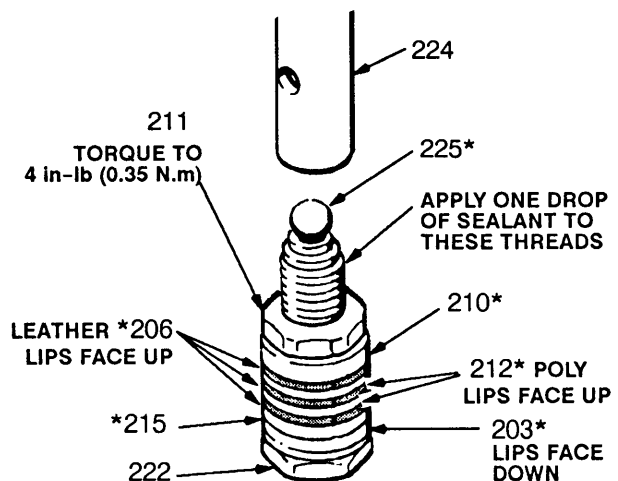
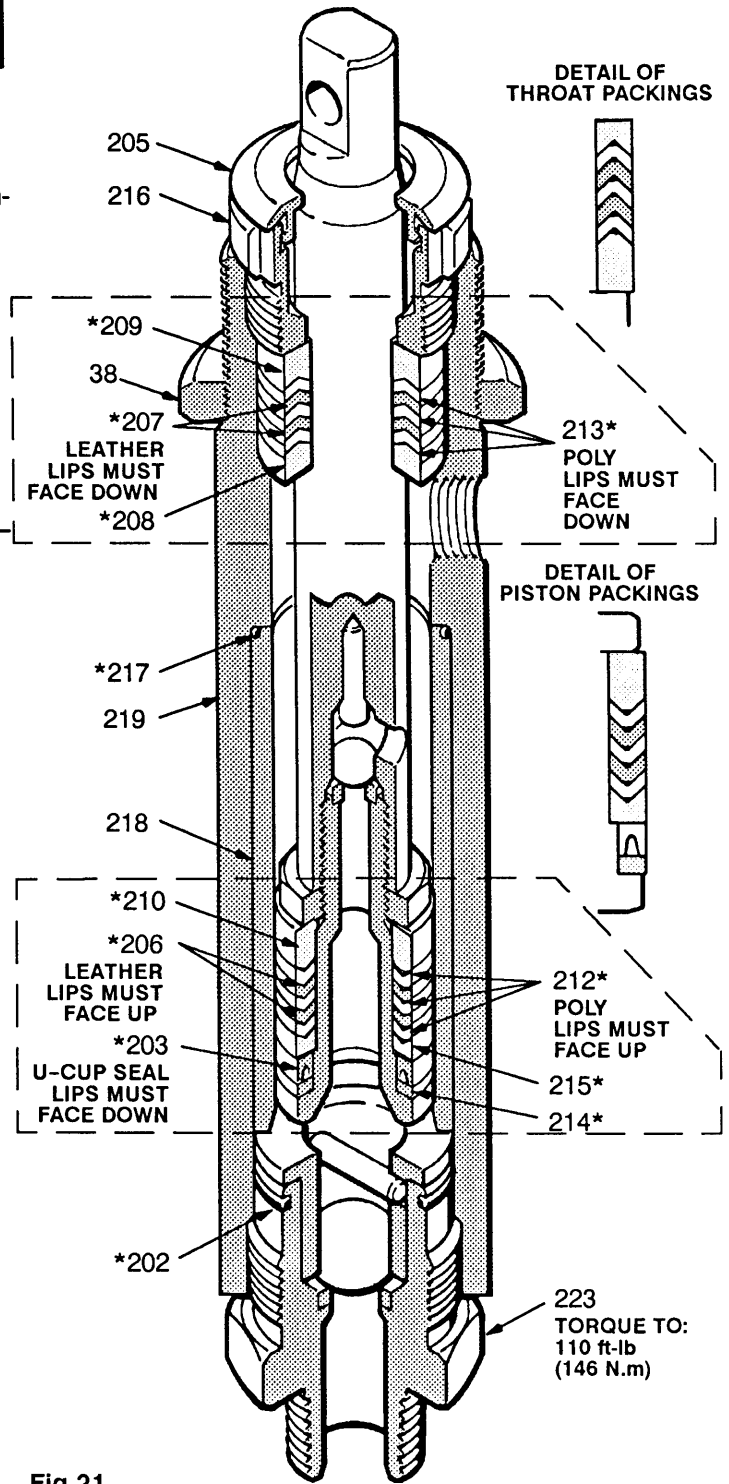

Fig 18
Fig 21
4. Remove the packing nut (216) and plug (205). See Fig 21.
5. Use a plastic mallet to tap the piston rod (224) down, then pull the rod out the bottom of the cylinder.
6. Remove the throat packings (207, 213) and glands (208, 209). See Fig 21.
8. Clamp the flats of the piston rod in a vise. Loosen the retaining nut (211). Unscrew the piston valve (222) from the rod. Remove all parts from the piston valve (222). See Fig 18.
NOTE: Alternate leather and plastic packings as shown in Fig 21. The lips of the throat "V" packings must face down, against pressure. The lips of the piston "V" packings must face up, against pressure. The lips of the U-cup seal (203) face down. Incorrect installation damages the packings and results in pump leaking.
1. Check the outside of the piston rod (224) and the inside of the sleeve (218) for scoring or scratches. If these parts are damaged, new packings will not seal properly. Replace these parts if needed.
2. Stack the backup washer (214), seal (203*), female gland (215*), alternate the packings (212*, 206*), and then male gland (210*) onto the piston valve (222). See Fig 21.
3. Tighten the packing retaining nut (211) onto the piston valve (222) to 4 in-lb (0.35 N.m)
- Note the alignment** of the piston (222) to the packing retainer nut (211). Maintain this alignment through Steps 4 - 7.
4. Place the ball (225) on the piston valve (222). See Fig 18.
5. Apply one drop of adhesive, supplied, to the threads of the piston valve. Then hand tighten the valve assembly into the piston rod just until the nut (211) contacts the rod. See Fig 18.
- One at a time stack the male gland (208*), alternate the packings (213*, 207*), and then install the female gland (209), into the top of the cylinder (219). See Fig 21.
- Install the packing nut (216) and plug (205), but leave loose for now. See Fig 21.
- Coat the piston rod and packings with oil. Carefully slide the assembly **INTO THE TOP OF THE SLEEVE** (218).
- Coat a new o-ring (217*) with oil and place it firmly in the cylinder groove. See Fig 21.
- Place flats of the intake valve (223) in a vise. Install a new o-ring (202*). Screw the cylinder on to the valve. Torque to 110 ft-lb (146 N.m). See Fig 21.
- Screw down the cylinder locknut (38) until it is finger tight at the bottom of the external cylinder threads.